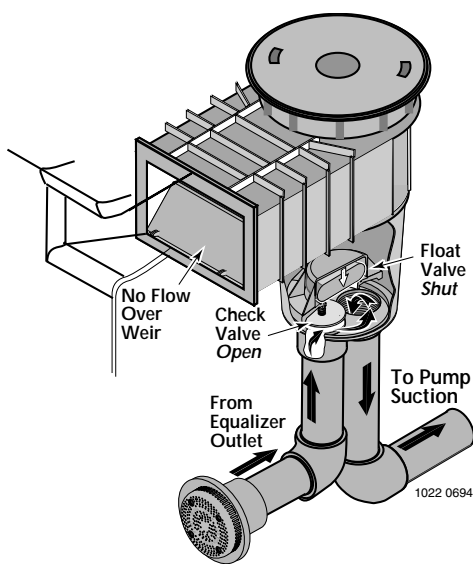

Figure 2: Equalizer operation; float valve shut, check valve open.
b. **Skimmers with float:** If skimmer is equipped with float valve, adjust trimmer plate on bottom of float. To reach trimmer plate, remove cover, basket, and float valve (See Figure 2, below). Swing trimmer plate to one side to increase trimmer port size (more flow through skimmer, less flow through main drains); reduce port size for less flow through skimmer and more flow through main drains.